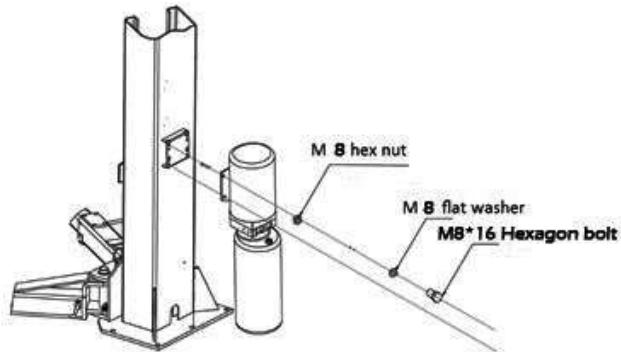

Fig. 8
8. Mount the power unit onto the power side post (**fig. 8**). See pictures **M** and **N** on page **47**.